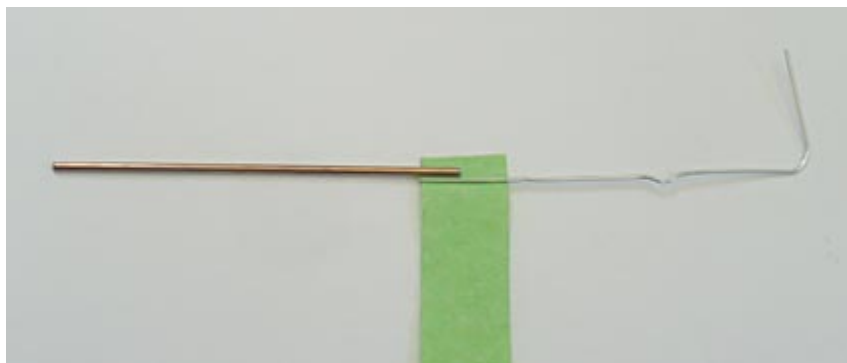

Figure 8. Picture showing how to connect a paperclip unfolded into an L shape with the bendable iron core using masking tape (green in this picture).
9. Connect the long side of one of the L-shaped paperclips to the bendable iron core using *masking* tape, covering approximately 1/8 inch (.6 cm) of the iron core with tape, as shown in Figure 8. Secure it well so your axle is sturdy. We strongly suggest you use masking tape; other tape might not create a sturdy attachment.